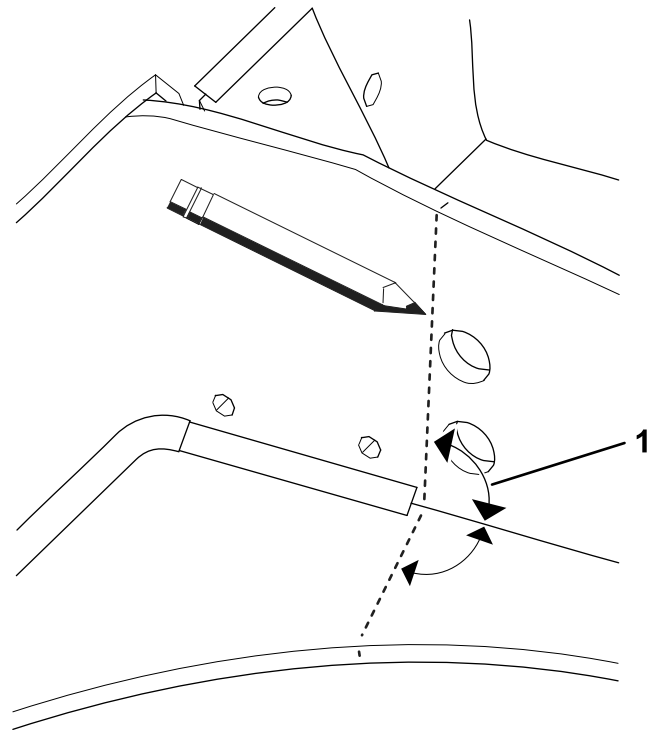

Figure 9
2. Using a ruler and a drawing tool, draw a line angled 90° from the base of the axle support in both directions (Figure 9). Repeat on the other side.